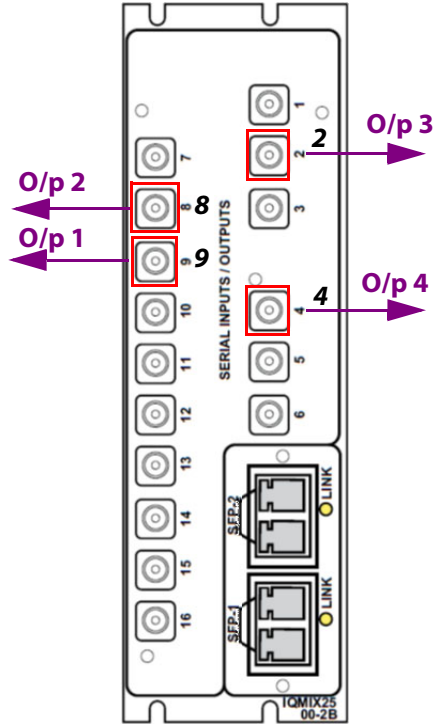

Fig. 4-5: Head Display Outputs 1 to 4
- See Table 4-5 and Figure 4-5.